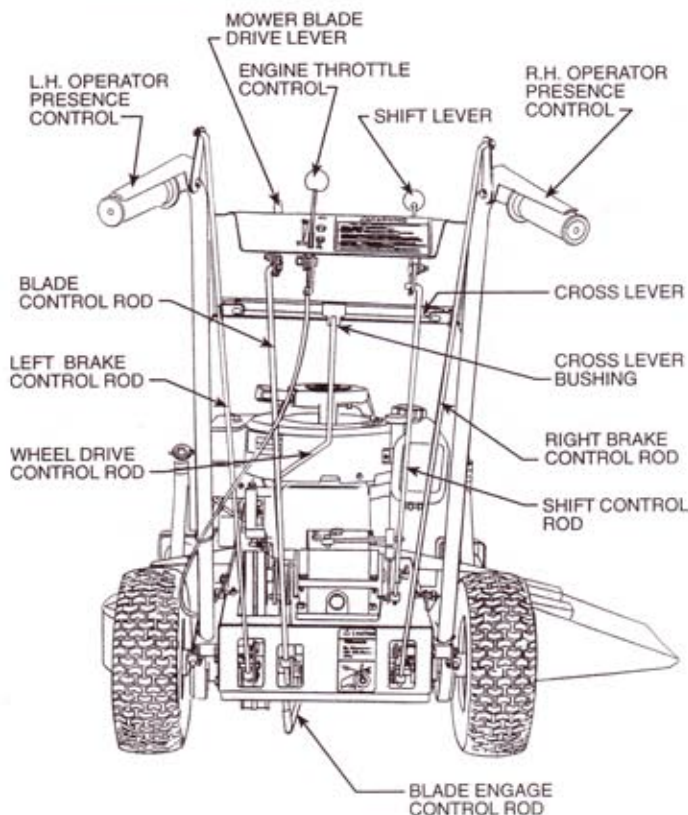

FIG 11 Wheel Drive Belt
8. Check out proper function of Wheel Drive system. May need to adjust the Wheel Drive Control Rod, FIG 11, to properly tension Belts.
WHEEL DRIVE BELT ADJUSTMENT FIG 11